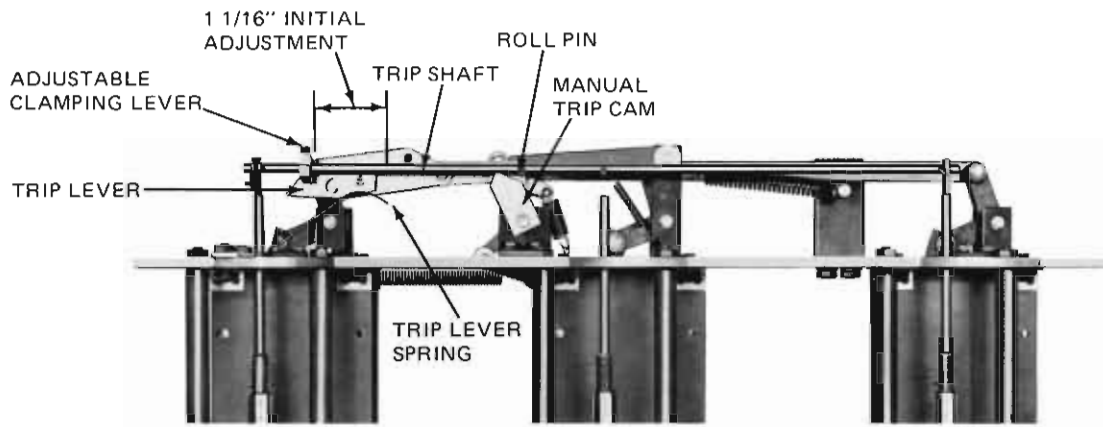

Figure 31
3. The adjustable clamping lever, Figure 31, should be adjusted initially as follows:
5. See that the trip lever spring is free to move within its limited range. Position this spring so it contacts the trip lever about 3/16 inch from the toggle latch pin when the sectionalizer is closed. This dimension can be varied if necessary to obtain positive latch engagement when closing the sectionalizer. See Figure 31.